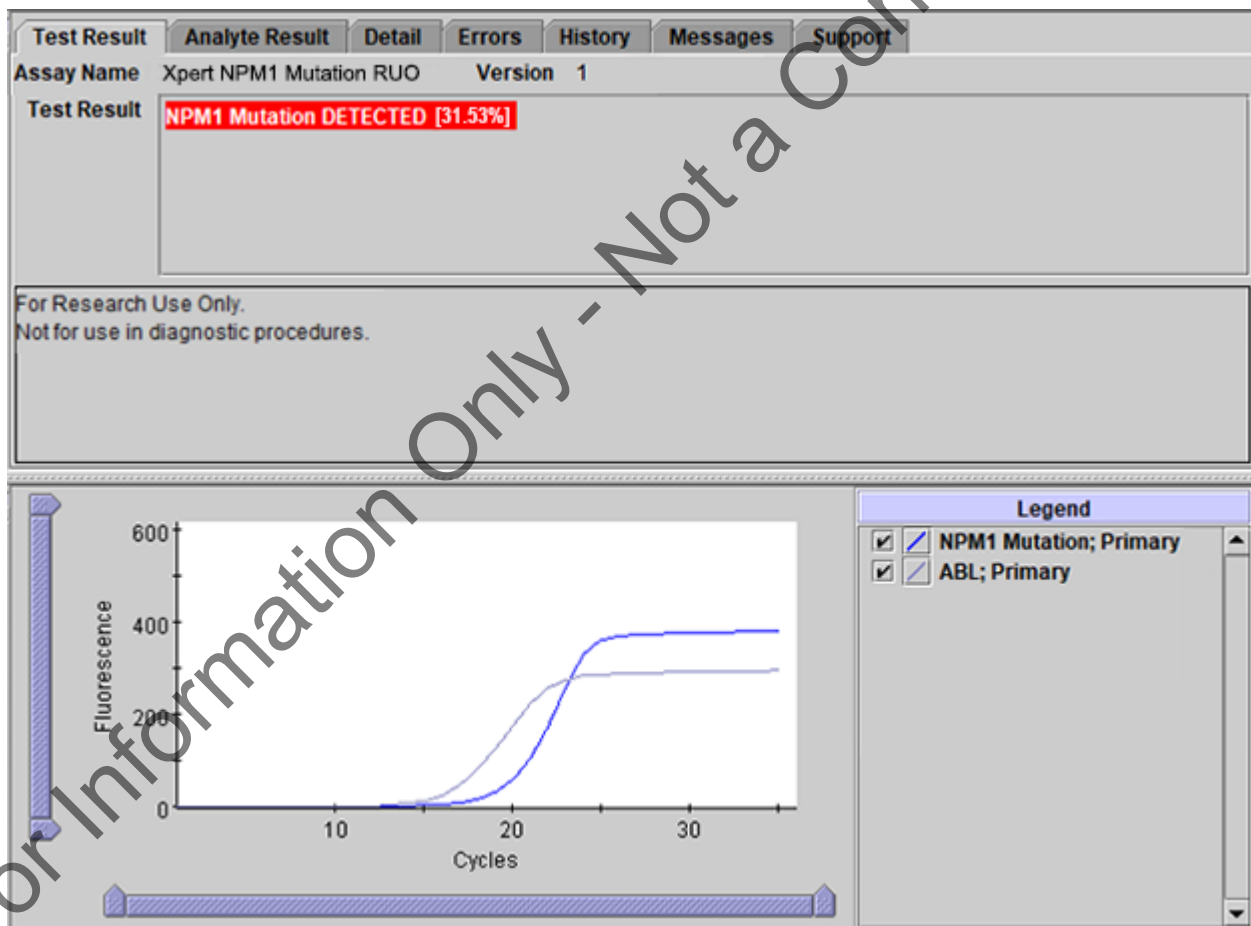
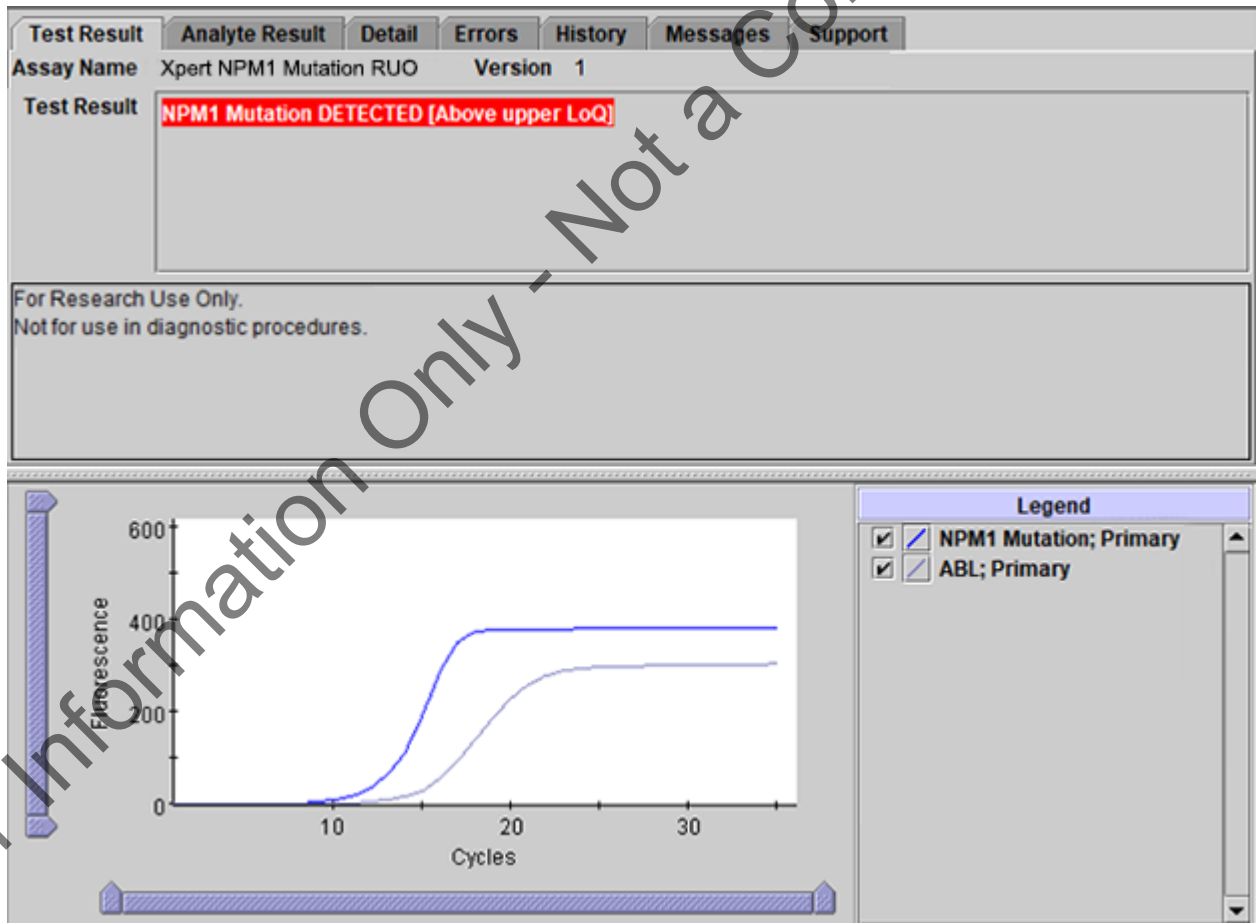
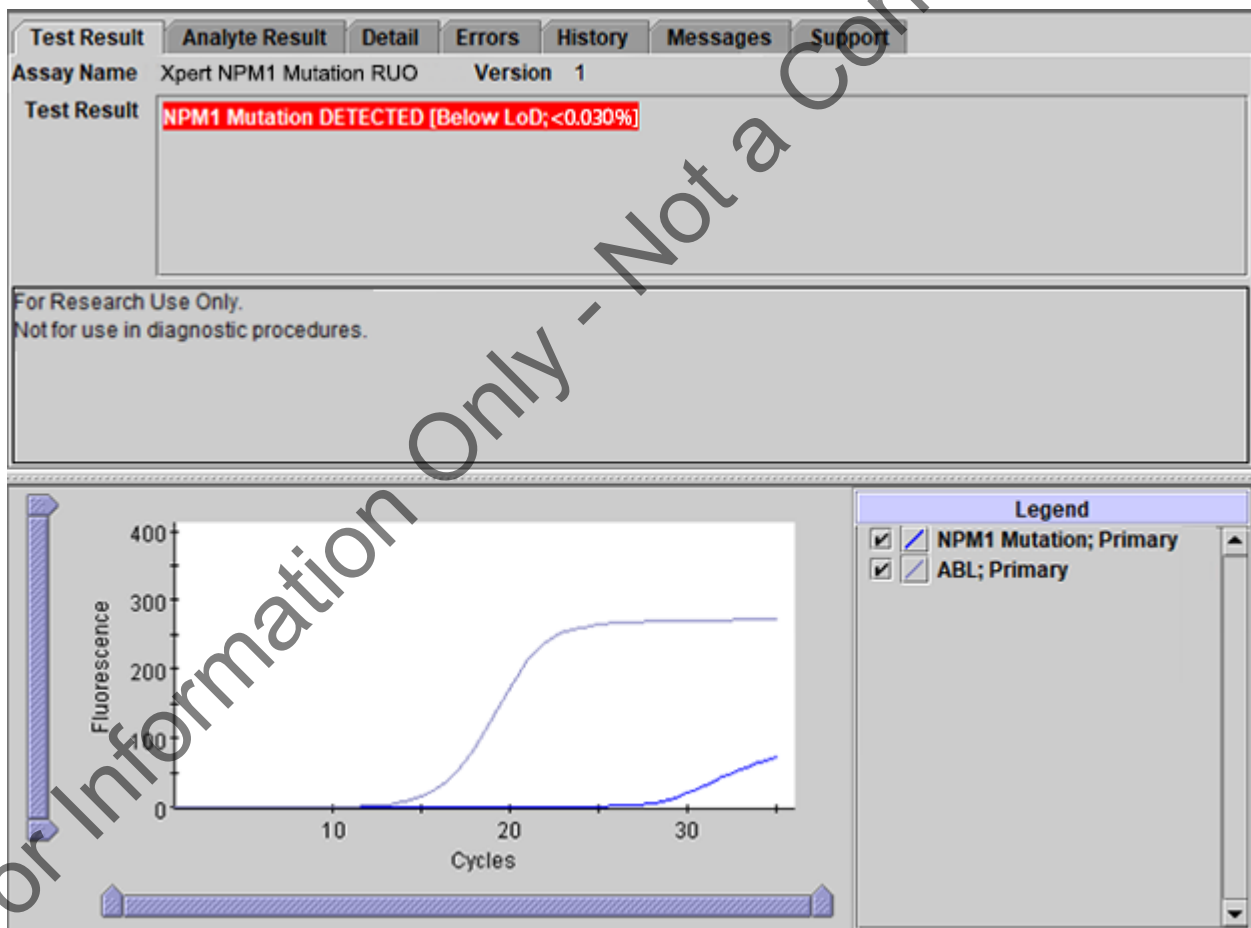

Figure 2. GeneXpert Dx View Results Window: NPM1 Mutation DETECTED [31.53%]
Figure 3. GeneXpert Dx View Results Window: NPM1 Mutation DETECTED [Above upper LoQ]
Figure 4. GeneXpert View Results Window: NPM1 Mutation DETECTED [Below LoD; <0.030%]
| NPM1 Mutation DETECTEDSee Figure 2, Figure 3, Figure 4       | NPM1 mutation transcript was detected. <ul style="list-style-type: none"> <li>NPM1 Mutation DETECTED – NPM1 mutation transcript was detected and has a cycle threshold (Ct) within the valid range and an endpoint above the threshold setting.</li> <li>Possible detected results:               <ul style="list-style-type: none"> <li>NPM1 MUTATION DETECTED [#.##%]; Figure 2.</li> <li>NPM1 MUTATION DETECTED [Above upper LoQ]; Figure 3.</li> <li>NPM1 MUTATION DETECTED [Below LoD; &lt;#.###%]; Figure 4.</li> </ul> </li> <li>ABL PASS – ABL transcript was detected and has a cycle threshold (Ct) within the valid range and endpoint above the threshold setting.</li> <li>Probe Check PASS – all probe check results passed.</li> </ul> |
**Result:** **NPM1 Mutation DETECTED [31.53%]**. See Figure 2.
**Result:** **NPM1 Mutation DETECTED [Above upper LoQ]**. See Figure 3.
**Result:** **NPM1 Mutation DETECTED [Below LoD; <0.030%]**. See Figure 4.